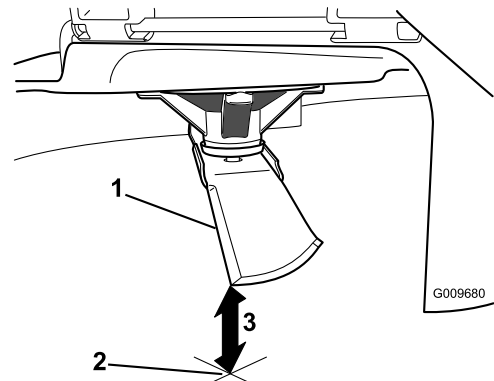

Figure 43
3. Measure from the tip of the blade to the flat surface (Figure 43).